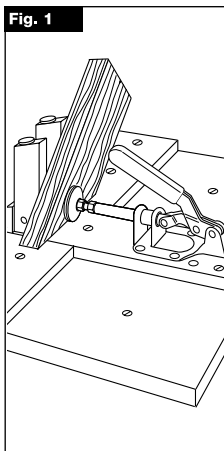

Fig. 1a
- Setting up for portable use - **(Fig. 1a)**